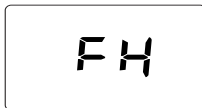

fig. 5- Vent with fan on
- For the following 20 seconds the display will show **FH** which identifies the heating system air venting cycle with the fan running (fig. 5).